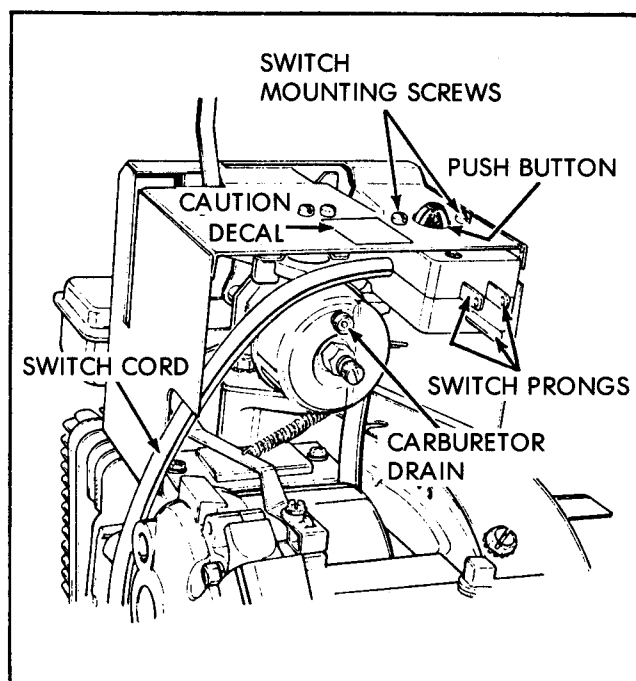

FIGURE 4
8. Route the switch cord around the rear of the engine. Insert the switch box into the carburetor cover so that the push button comes through the large hole. Insert the two mounting screws into the switch box and tighten them securely. (See Figure 4.)
9. Check to be sure that the switch box cord is not bumping the carburetor bowl drain. (See Figure 4.)
10. Attach caution decal to heater box near push button. (See Figure 4.)
1. Select power cord from kit and attach female end to prongs provided on switch box. (See Figure 4.)
4. **STAND CLEAR** and depress starting switch (Figure 4). As soon as engine starts, release switch.